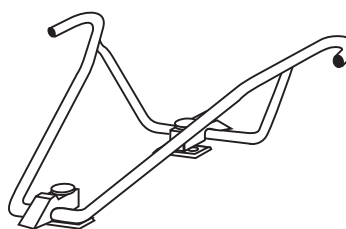

Figure 25 - Tie-Down Knobs Properly Seated in Mounting Blocks
4. Attach the antler and antler mounting blocks to the floor with two tie-down knobs. When the tie-down knobs are properly tightened into the antler mounting blocks, the knobs will be slightly recessed in the mounting blocks (Figure 25).